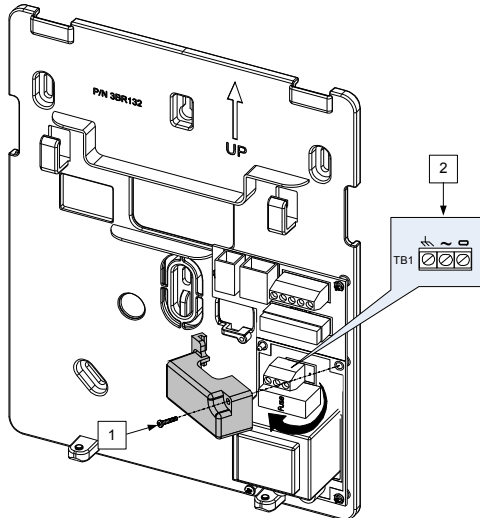

Figure 6: Connecting AC Power wires
1. Remove the power supply unit cover (Figure 6, 1).
2. Connect the power wire (Safety approved, SVT, 18AWG, 0.75mm²) to the power terminal located on the power supply unit (TB1) (2, Figure 6).